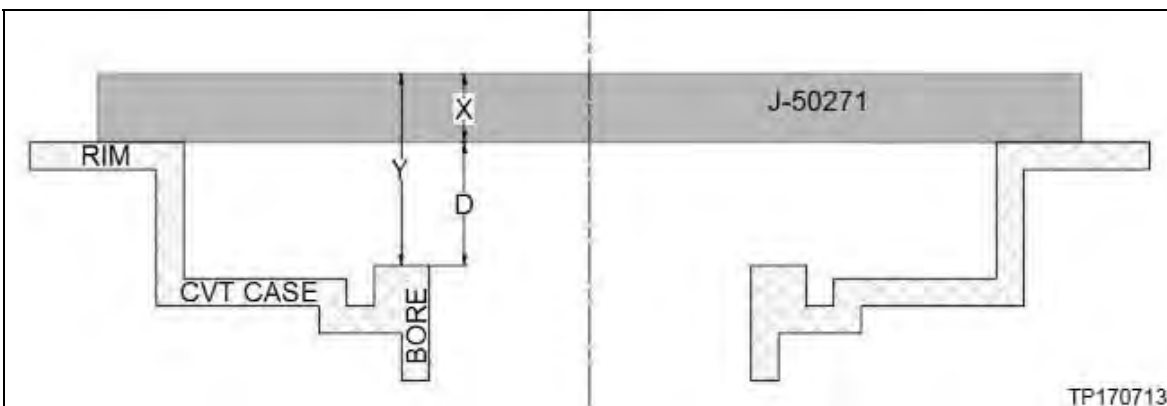

Figure 5M
NOTE: Only if a Gauge Block (J-50271) is not available, measurement "X" (Figure 5M, page 54) will need to be determined for the measuring bar being used. This can be done either with a set of calipers or with Digital Depth Gauge (J-50272).
8. Measure the average distance (Y) shown in Figure 5M as follows: